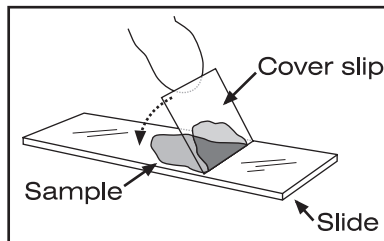

Figure R3.4 | Creating a Slide
B. Hold the slide as level as possible in your non-dominant hand or place it on the benchtop (Figure R3.4).
D. Hold the coverslip in your dominant hand and place it close to the sample, without touching it, at a 45° angle. Slide the coverslip toward the sample until it contacts the liquid part of the sample. The liquid should spread along the entire edge of the coverslip. Slowly lower the coverslip over the sample. (Figure R3.4)